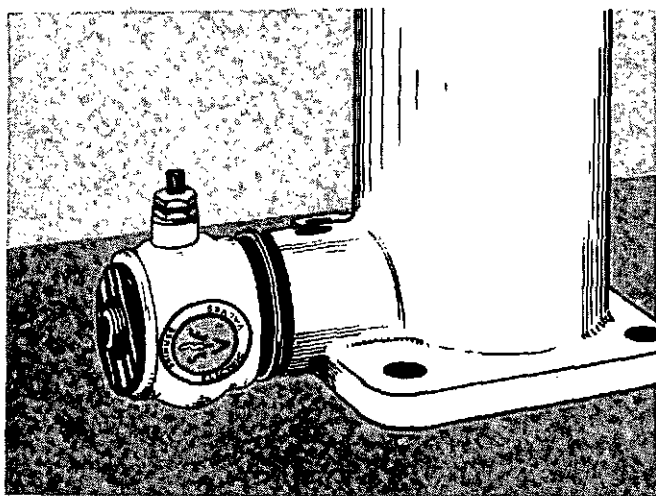

Fig. 4-39. Install The Solenoid Body.
22. Install the solenoid end plate, solenoid body and dataplate onto the solenoid stem, Fig. 4-39. Fasten the solenoid to the stem with the jam nut. Make sure the electrical connections are toward the top of the actuator. Tighten the jam nut to 30 to 45 in.-lbs. [3.4 to 5.1 N•m] torque.